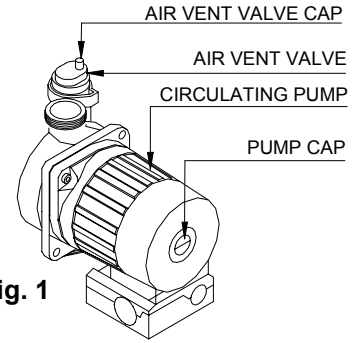

Fig. 1
Whenever it is necessary to empty the system, proceed as follows:set ON/OFF switch in OFF position (fig.1 page 9);
- turn the system drain tap **RS** (see fig. 1) and use a container to collect the water that runs out;